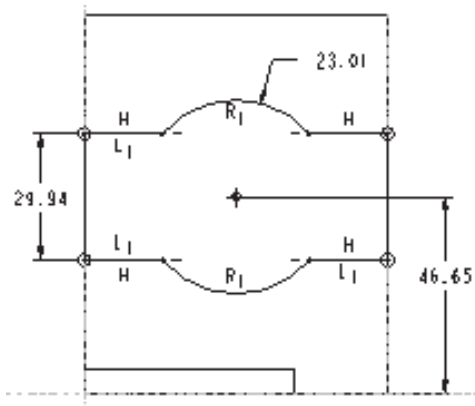

Figure B-12 Sketch after dimensioning
1. Choose the **Create defining dimension.** button and select the center of the circle and the bottom edge of the existing feature and place the dimension using the middle mouse button as shown in Figure B-12.
2. Select the left vertical line in the sketch and place the dimension as shown in Figure B-12.